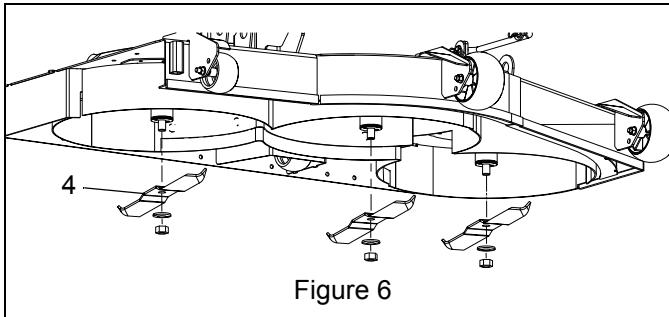

Figure 6
8. Install mulch blades (item 4) with washers and hex nuts removed earlier. Torque blade nuts to 136 N·m – 163 N·m (100 lb-ft – 120 lb-ft). See Figure 6.